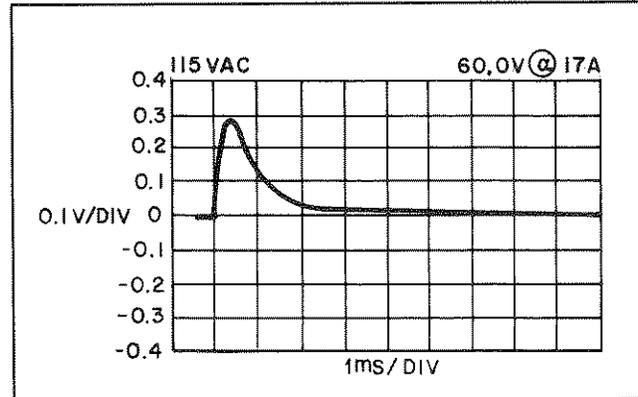

Figure 5-6. Load Transient Recovery Waveform
- f. Adjust the oscilloscope to display transients as in Figure 5-6.